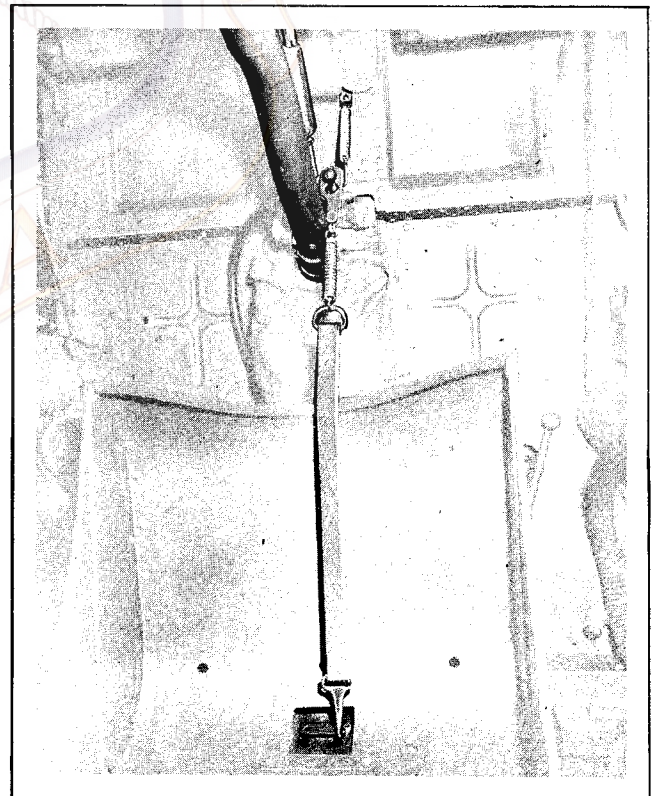

Figure 18— Surface Controls Lock
j. SURFACE CONTROLS. — All-metal, balanced control surfaces, and conventional control stick and pedals are used. Adjustable trim tabs are built into the left aileron, the rudder, and the trailing edges of the elevators. Fixed trim tabs are installed on the right aileron and each elevator. These are adjusted at the factory and provide correction for minor manufacturing tolerances. The control stick and rudder pedals may be locked by a strap-and-latch arrangement (figure 18) at the base of the control stick.